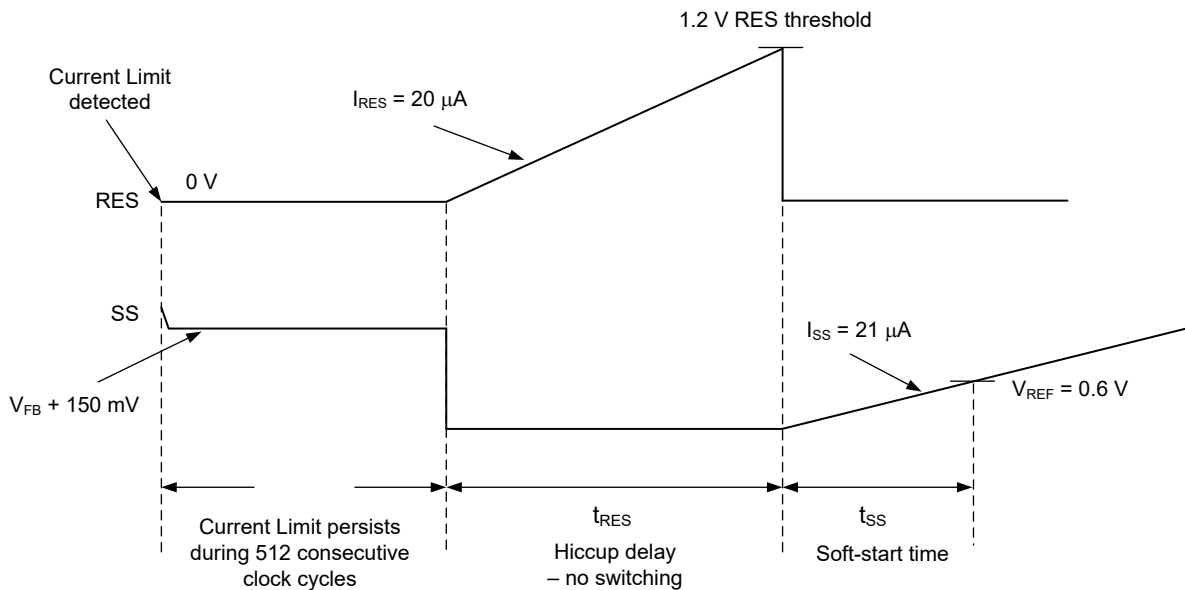

Figure 9-6. Hiccup Mode Timing Diagram
The LM5143 includes an optional hiccup mode protection function that is enabled when a capacitor is connected to the RES pin. In normal operation, the RES capacitor is discharged to ground. If 512 cycles of cycle-by-cycle current limiting occurs, SS is pulled low and the HO and LO outputs are disabled (see Figure 9-6). A 20- μA current source begins to charge the RES capacitor. When the RES voltage increases to 1.2 V, RES is pulled low and the SS capacitor begins to charge. The 512-cycle hiccup counter is reset if four consecutive switching cycles occur without exceeding the current limit threshold. Separate hiccup counters are provided for each channel, but the RES pin is shared by both channels. One channel can be in hiccup protection while the other operates normally. In the event that both channels are in an overcurrent condition triggering hiccup protection, the last hiccup counter to expire pulls RES low and starts the RES capacitor charging cycle. Both channels then restart together when $V_{RES} = 1.2 \text{ V}$. If RES is connected to VDDA at power up, the hiccup function is disabled for both channels.
- t_{RES} is the specified hiccup delay as shown in Figure 9-6.